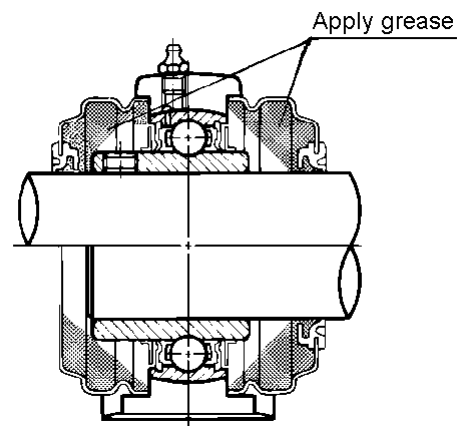

Fig. 6.1: For pressed steel covers
- 2) Apply an amount of grease corresponding to 1/3 to 1/2 of the volume of the space inside the covers to that space as shown in Figs. 6.1 and 6.2.